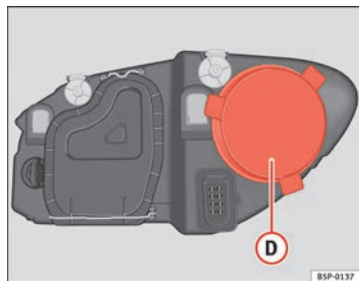

Fig. 190 Side lights
- Remove the cover ⇒ fig. 190 **D** by pulling on this.